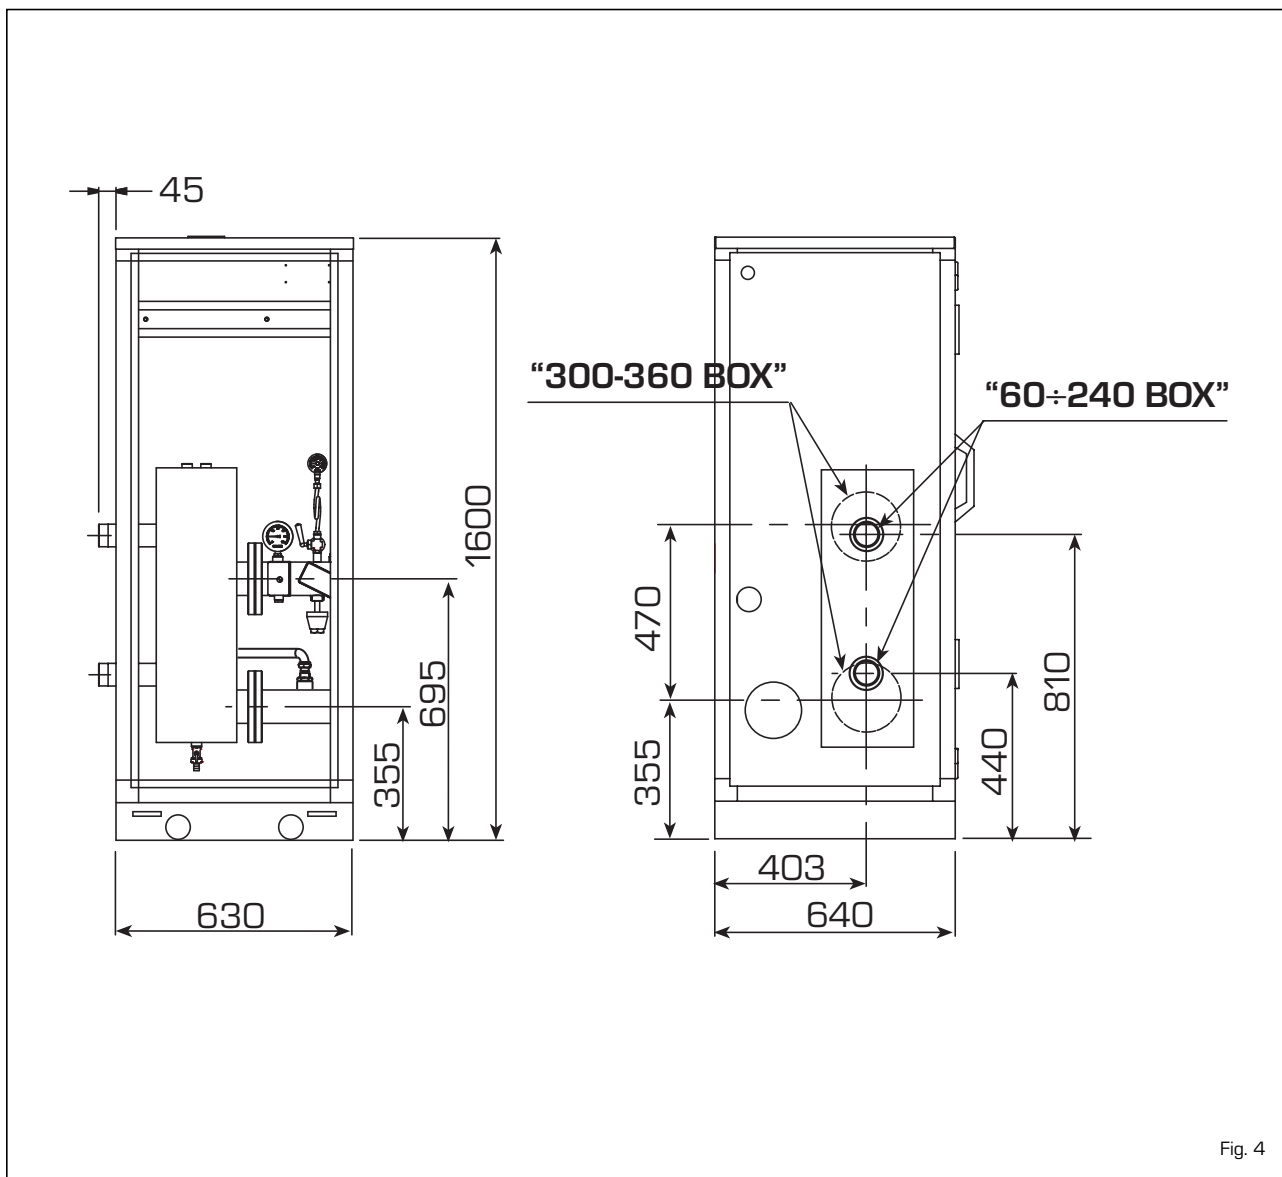

Fig. 4
- Hydraulic separator box/safety kit cod. 8101517 (fig. 4)